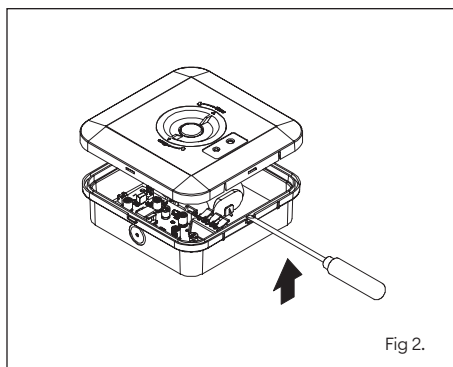

Fig 2.
3. Open cover front cover by releasing the 4x clips (fig 2).